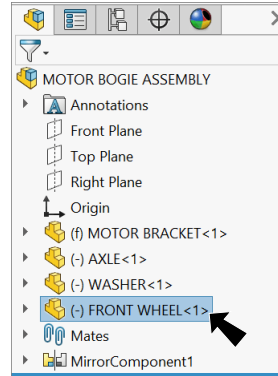

Fig. 5
Step 1. Click the **FRONT WHEEL**  component in the Feature Manager to select the component, **Fig. 5**.